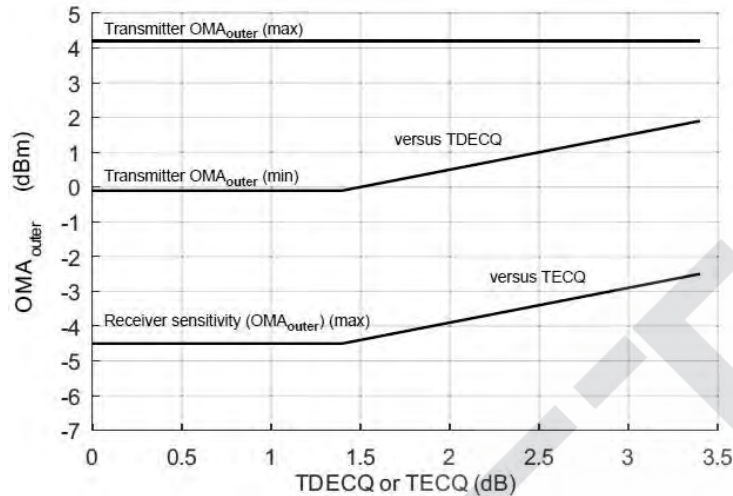

Figure 6. Illustration of Transmitter OMA_{outer} and Receiver Sensitivity Mask for 800G-DR8+
2. The values for $OMA_{outer}(\min)$ vary with TDECQ. Figure 6 illustrates this along with the values for $OMA_{outer}(\max)$.
5. Receiver sensitivity (OMA_{outer}) is informative and is defined for a transmitter with a value of TECQ up to 3.4 dB. Receiver sensitivity should meet Equation (1), which is illustrated in Figure 6.